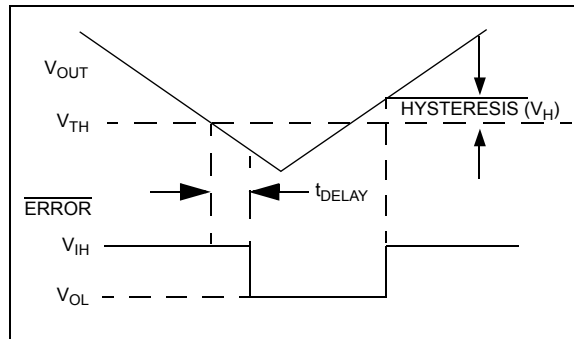

FIGURE 4-2: Error Output Operation.
ERROR is driven low whenever V_{OUT} falls out of regulation by more than -5% (typical). This condition may be caused by low input voltage, output current limiting, or thermal limiting. The ERROR output voltage value (e.g. ERROR = V_{OL} at 4.75V (typical) for a 5.0V regulator and 2.85V (typical) for a 3.0V regulator). ERROR output operation is shown in Figure 4-2.
- Changed Figure 4-2.